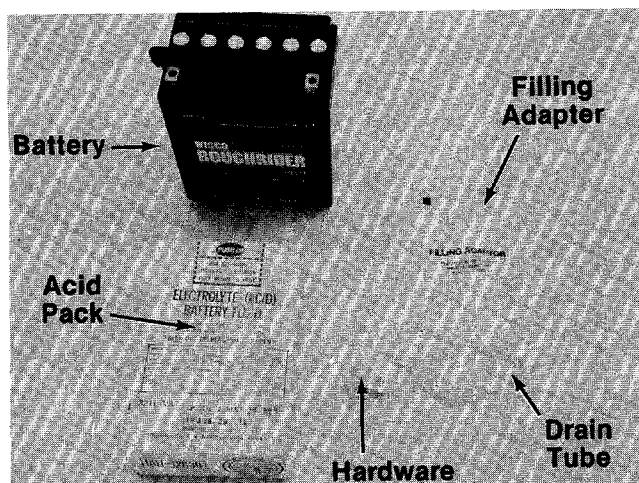

FIGURE 8.
1. Upon opening the battery pack, you should receive acid pack, battery, drain tube, filling adapter and hardware. See figure 8.